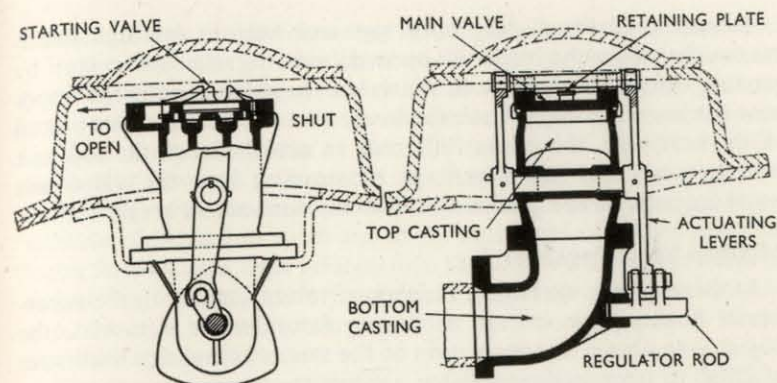

Fig. 21 REGULATOR VALVE HORIZONTAL DOME TYPE
The horizontal slide dome type of regulator is shown in Fig. 21. It is similar in principle to the vertical pattern.
- (8) *Q.* What action would you take in the event of a melted fusible plug?
- (9) *Q.* What are washout plugs, handhole and mudhole doors and for what purpose are they used?
- (10) *Q.* Where is the blower valve and ring positioned and for what purpose is it used?
A. The blower valve is generally situated on the boiler back plate; steam from the dome is led to this valve and when the valve is opened the steam is carried by an internal steam pipe, passing through the boiler, to the smokebox tubeplate, whence it is led to the blower ring or casting on top of the blast pipe or to a blower ring cast integral with the base of the chimney. On B.R. standard locomotives it is mounted below the Driver's brake valve away from the boiler back plate so as to be within easy reach of the driver (see Fig. 21). The function of the blower is to create a partial vacuum in the smokebox when the regulator is closed. Whilst working a train or light engine, the blower valve must always be opened prior to closing the regulator to prevent back draught from the firebox and to avoid smokebox gases being induced down the blast pipe, especially on entering tunnels. Care should always be taken when passing over water troughs to see that the ashpan dampers and firedoor are closed (on the train engine) and the blower valve opened as a further caution to prevent back draught. When the locomotive is standing, the blower may be used to avoid smoke and to augment the natural draught in the firebox when required to raise steam pressure.
- (11) *Q.* Describe how the vertical slide valve type of regulator works.